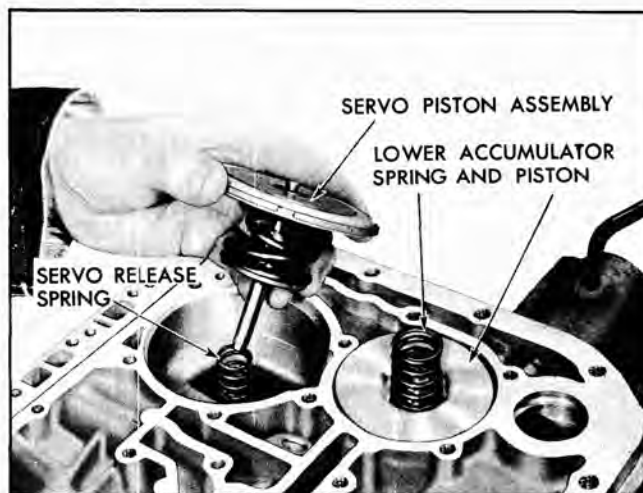

Fig. 45 Removing Servo Piston
18. Remove the servo piston assembly from bore in case (Fig. 45).